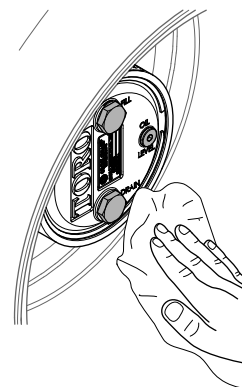

Figure 104
3. Wipe clean the planetary and brake housings (Figure 104).